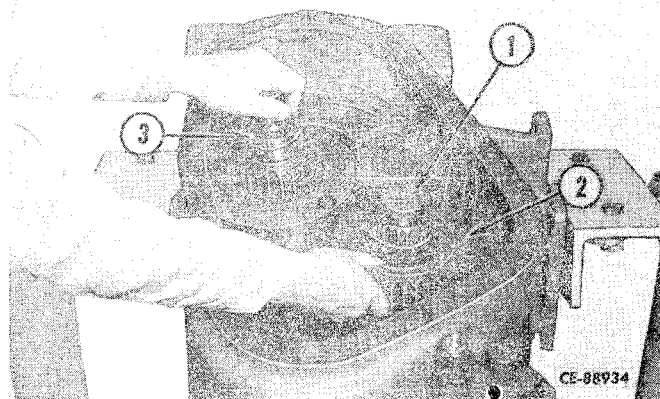

Figure 4-67
Install the reverse driven gear (2, Fig. 4-67) on the countershaft (1) with counterbore in gear hub to index with snap ring on countershaft. Tilt the 2nd and 3rd clutch pack (3) away from the countershaft while installing gear.